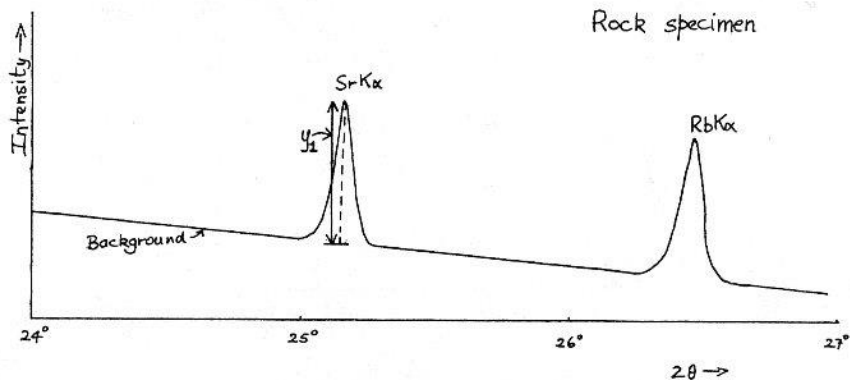

Fig. 5.
(2) Semi-Quantitative Analysis
To obtain a rough estimation of the quantity of elements present in a rock specimen a scan is made using the method described under (1). Then another scan is produced using a rock powder with known concentrations of the desired elements (usually on International Standards) and the Peak minus background heights for each element in each scan are compared as in the hypothetical scans shown in figs. 5 and 6.